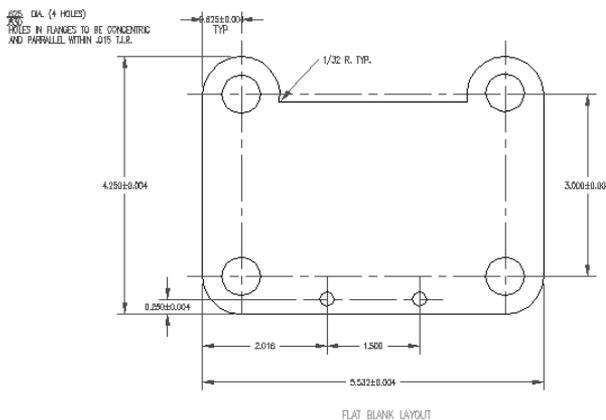

Figure 15-34: The dimensions have been added.
12. Save your drawing. It should look like Figure 15-34.